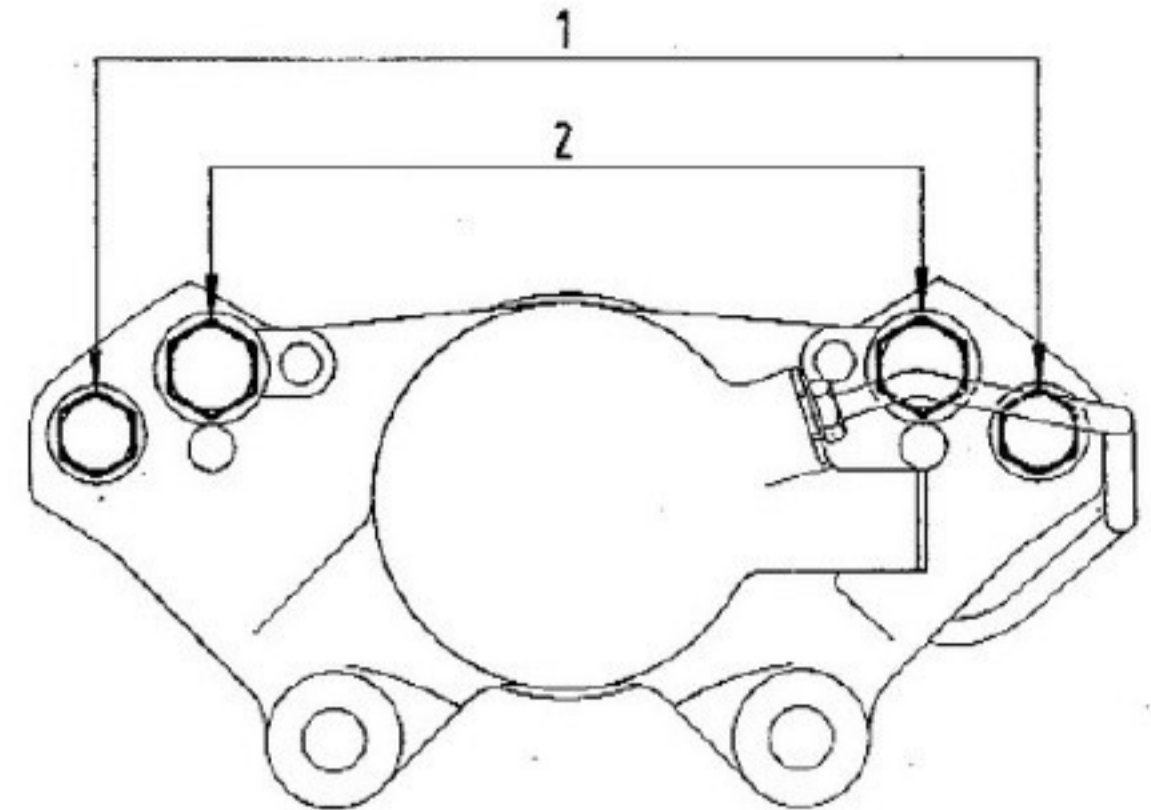
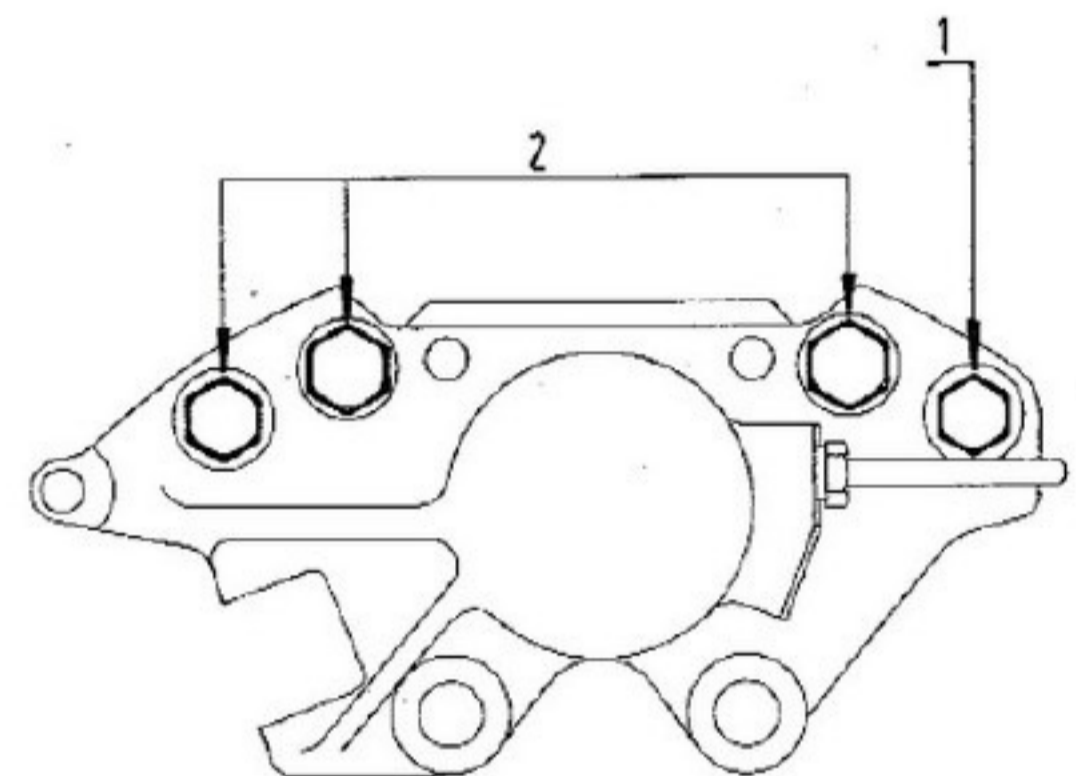

Fig. 115. - Front caliper halves tightening torques.
Fig. 116. - Rear caliper halves tightening torques.
- **Front calipers** (fig. 115):
- Inner pair of bolts (2) 9200 to 9700 kgmm (67 to 70 ft.lbs)
- Outer pair of bolts (1) 7200 to 7600 kgmm (52 to 55 ft.lbs)
- **Rear calipers** (fig. 116):
- Topmost bolt (side opposite hand brake) (1) 3900 to 4100 kgmm (28 to 30 ft.lbs)
- The other three bolts (2) 7200 to 7600 kgmm (52 to 55 ft.lbs)